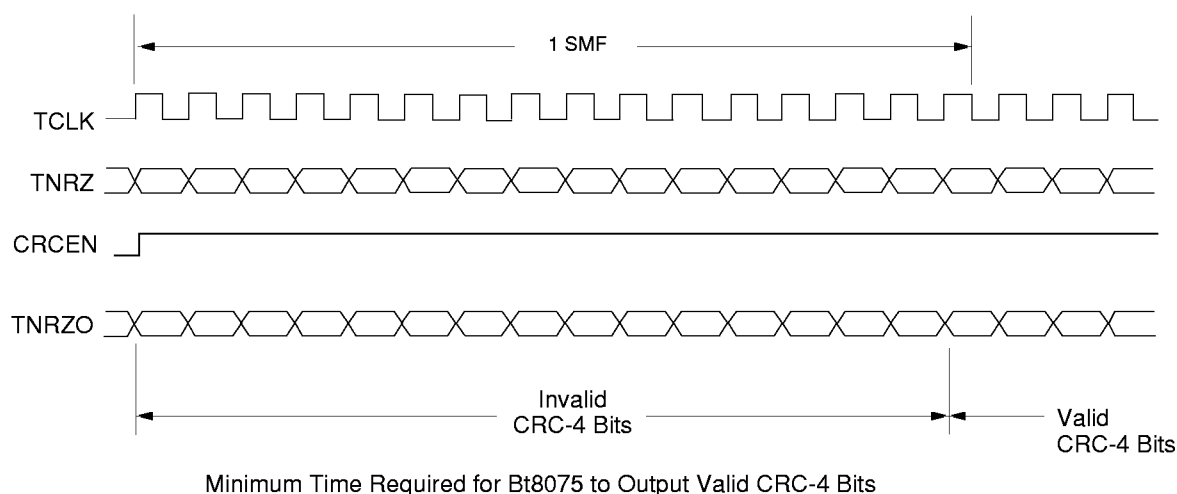

Figure 8. CRC-4 Output Timing
The CRC-4 bits are inserted in the even frames in the bit 1 position of these frames. There are four CRC-4 bits in each 8-frame Sub-MultiFrame (SMF). In odd frames, bit 1 of the first six frames of each 16-frame MultiFrame (MF) contains the CRC multiframe alignment signal (001011). Bit 1 of the last two odd frames of the multiframe (Frame 13, 15) contains the spare bits. Access to the international bit (bit 1 of each frame) is provided through the Bt8070 when the Bt8075 in CRC-4 disable mode (see Figure 8).